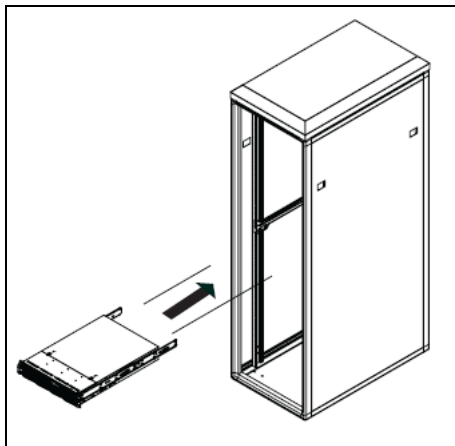

Figure 2-7. Mounting the Enterprise Server's chassis into a rack
4. Mount the Xmedia Server chassis into the rack (figure 2-7).